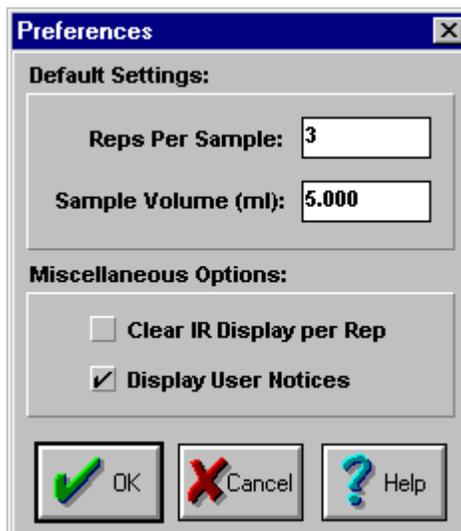

Figure 4.1. Preferences screen
1. From the Status screen, go to the **Setup** menu and select **Preferences**. This will access the Preferences screen (Figure 4.1.).